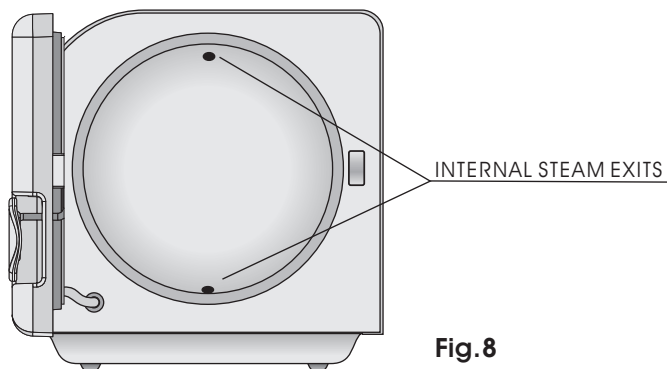

Fig.8
- 8► **INTERNAL STEAM EXITS** - There are two orifices inside the chamber (Fig.8) that work as conduits for the steam from the chamber to the solenoid valve. They must be inspected **daily** to be kept free from obstructions.